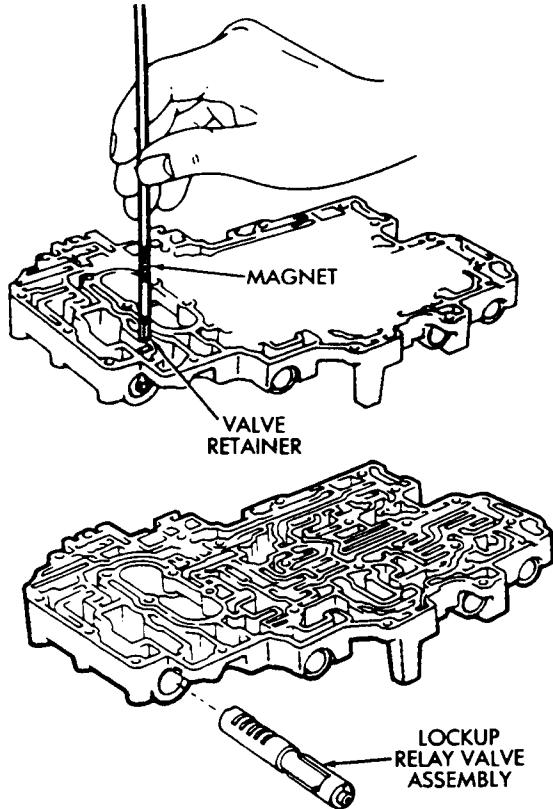

Fig. 8 Removing/Installing Lockup Relay Valve
- (8) Install assembled lock-up relay valve in valve bore and install retainer (Fig. 8).